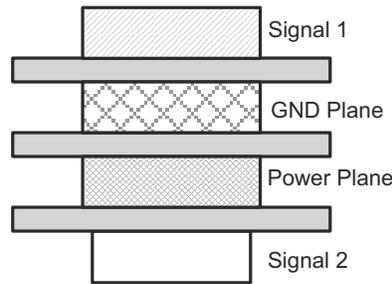

Figure 8-3. Example Layout
- When working with high frequencies, a printed circuit board with at least four layers is recommended; two signal layers separated by a ground and power layer as shown in Figure 8-3.